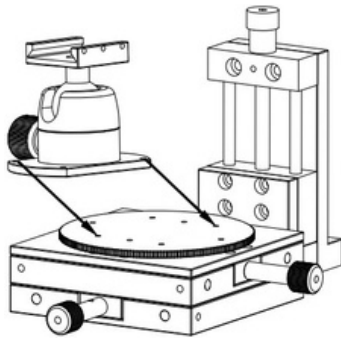

Figure 1
- Place the ball head on the round platform, and the ball stud hole is aligned with the screw hole of the bottom plate. (Figure 1)